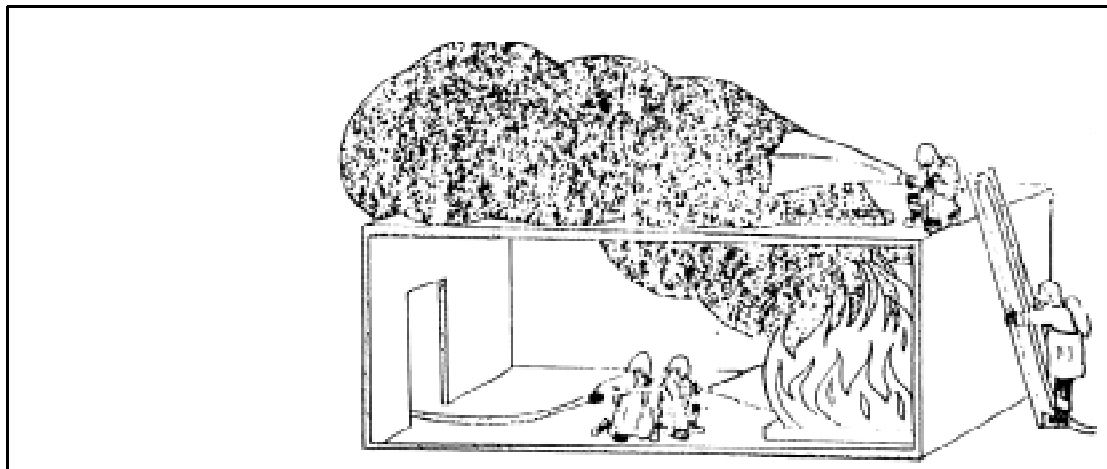

Figure 8-7. Top ventilation
**8-51.** Opening roofs is the primary method of top ventilation (Figure 8-7). To top ventilate, cut a hole in the roof above the seat of a fire. Hot air currents rise and remove the heat and gases. Before ventilating, consider—